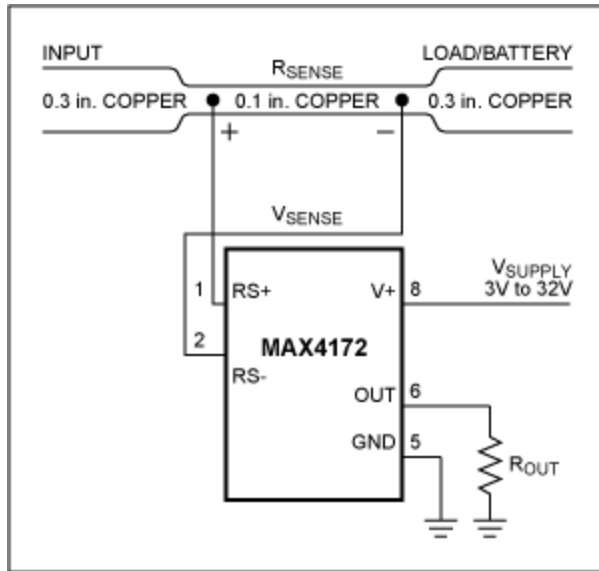

Figure 10. This high-side current monitor (the MAX4172) employs a PCB trace for  $R_{SENSE}$ .
- **Cost:** Using a PCB trace as a sense resistor (**Figure 10**) is an alternative method for applications where the cost of  $R_{SENSE}$  is an issue. You will need to adjust the full-scale current value with a potentiometer because of inaccuracy in the copper resistance. The resistance temperature coefficient of copper is fairly high (approximately 0.4%/°C) in systems that undergo wide temperature variations.